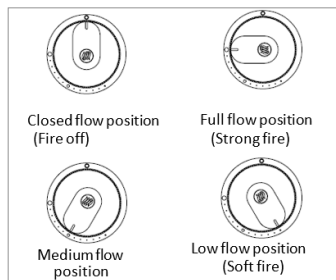

Figure 2: Control lever adjustment
6. Then adjust the height of the flame as desired by turning the or full-flow (great-circle) flow control levers reduced (small circle) (See figure 2)